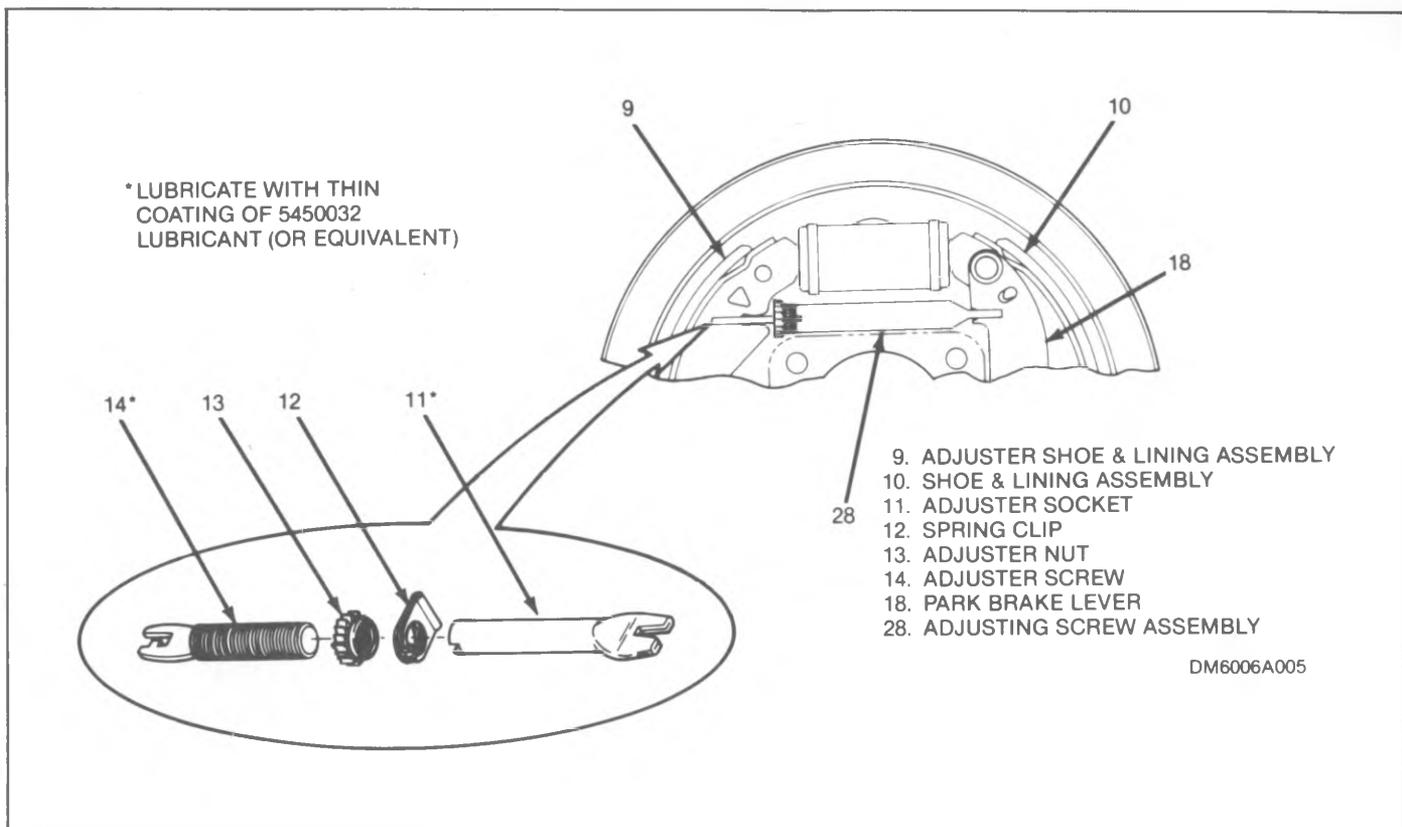
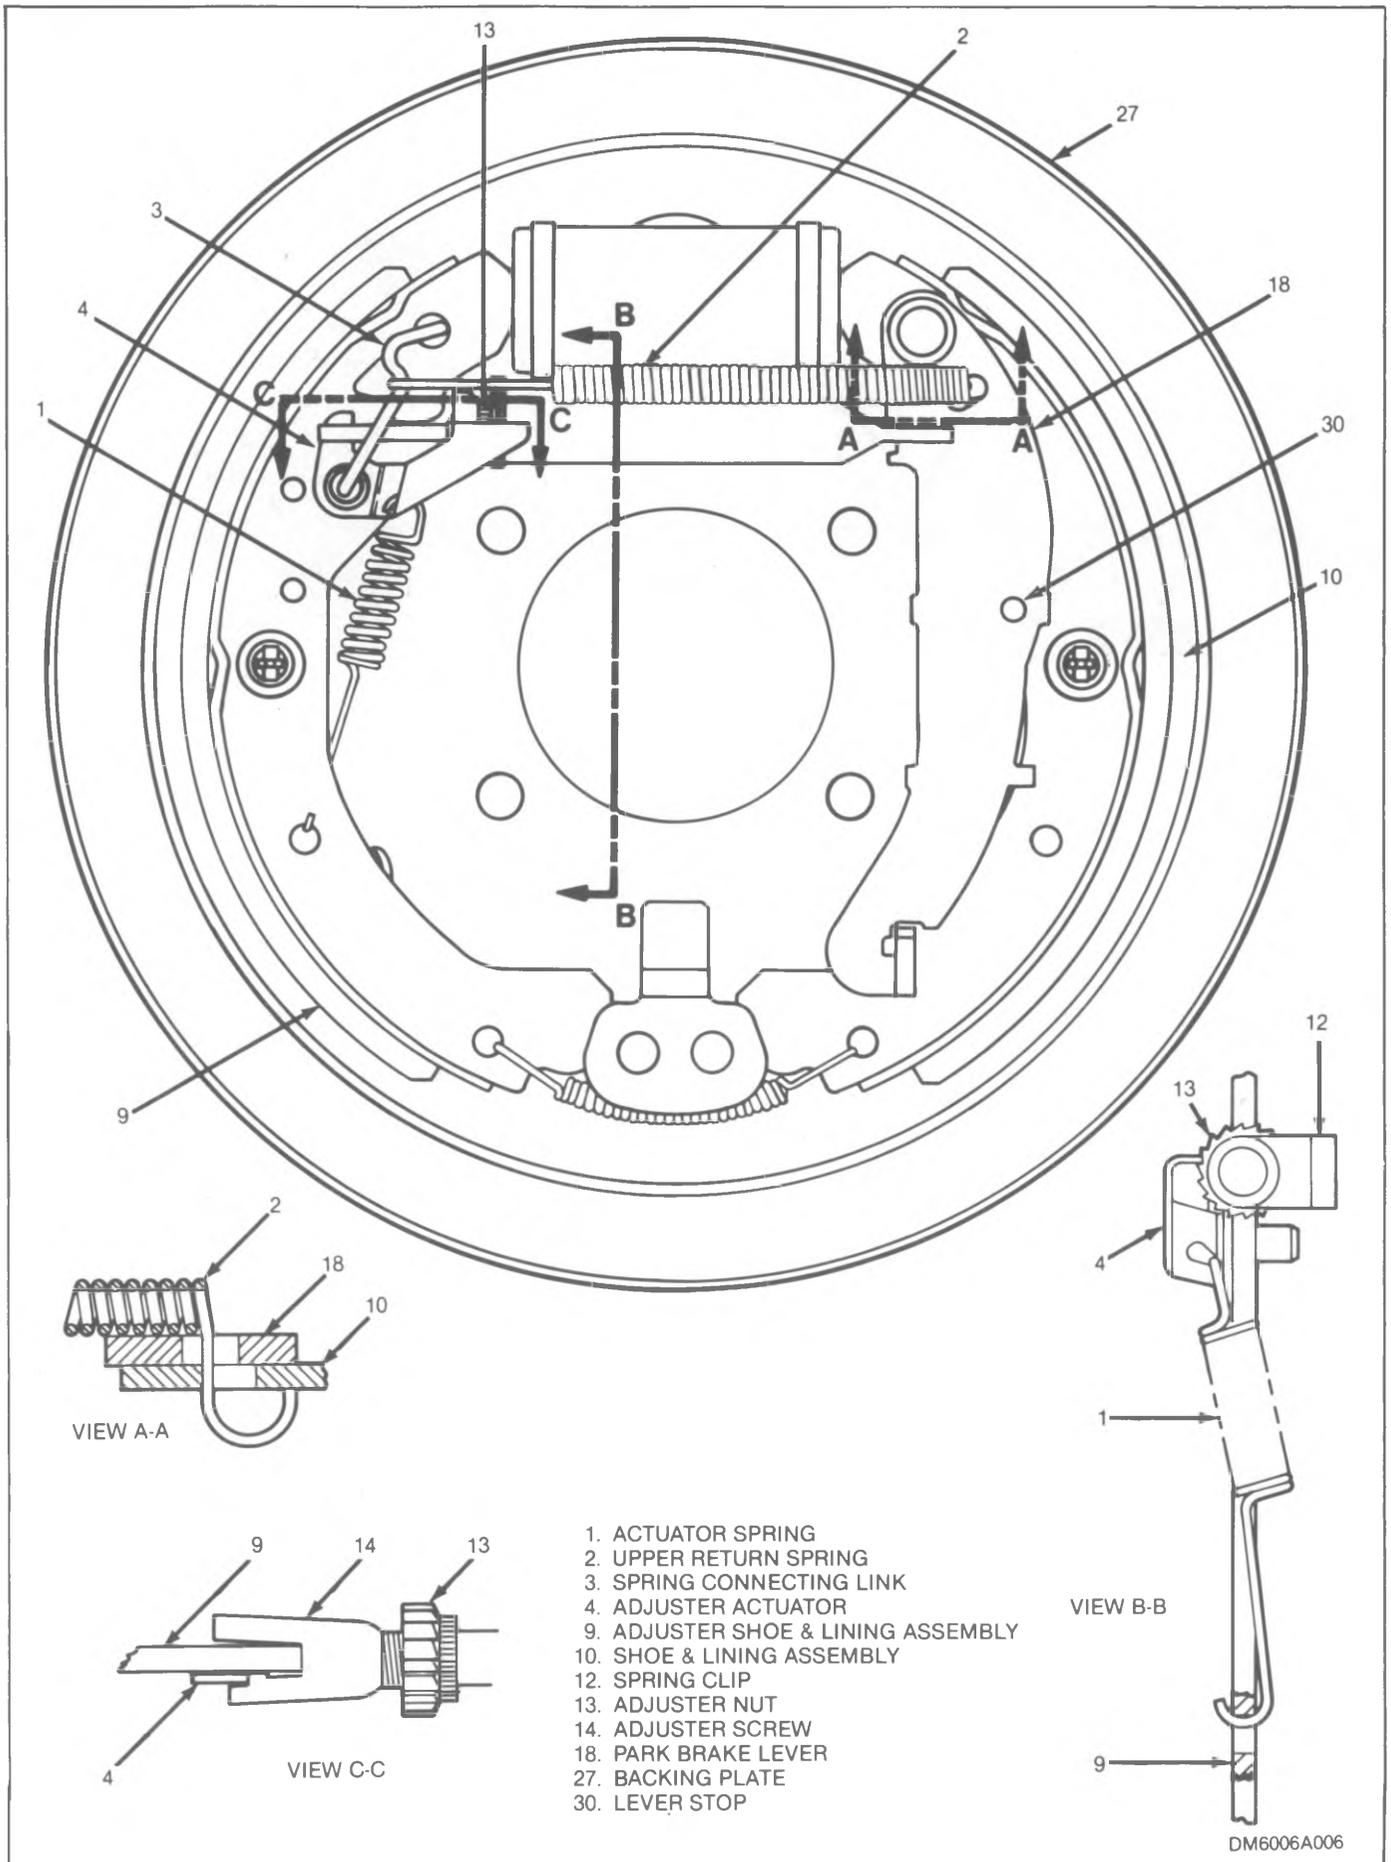

Figure 4-38. Adjusting Screw Assembly
Figure 4-39. Brake Assembly Details
14. Disassemble adjusting screw assembly (see figure 4-38) and clean parts in denatured alcohol. Check threads of adjuster screw (14) and nut (13) for smooth rotation over entire length. Apply brake lube
to adjuster screw threads, and ID of adjuster socket (11). Reassemble with spring clip (12) in position shown in figure 4-38.
16. If shoe and lining assemblies were replaced, press adjuster pin (33) into shoe and lining (9) so that pin projects 7.0-7.2 mm (0.275-0.283 in.) from side of shoe web where adjuster actuator (4) is installed.
17. Install parking brake lever (18) on shoe and lining (10) with spring washer (17), pin (16) and retaining ring (15). Make sure concave side of spring washer is against parking brake lever.
18. Install lower return spring (6) between shoe and linings (9 and 10).
**CAUTION:** Do not over-stretch lower return spring (6) in following step. Spring will be damaged if extended length exceeds 98.6 mm (3.88 in).
19. Install adjuster shoe and lining (9) and shoe and lining (10) (after connecting parking brake cable) with hold down pins (8) and springs (7). Lower return spring (6) should be positioned under the anchor plate.
a. Adjuster shoe and lining (9) is the one in which pin (33) was installed.
b. Adjuster shoe and lining (9) is to front of car on LH brake assembly or to rear of car on RH brake assembly.
20. Install adjusting screw assembly (28) between adjuster shoe and lining (9) and shoe and lining (10). Position as follows (see figure 4-39).
a. Adjusting screw assembly (28) with adjuster screw (14) engaging notch in adjuster shoe and lining (9), and spring clip (12) pointing towards the backing plate (see figure 4-38).
21. Install spring washer (5) over pin (33) with concave side against web of adjuster shoe and lining (9).
22. Install adjuster actuator (4) so that its top leg engages notch in adjuster screw (14) as shown in figure 4-39, view C-C.
23. Install spring connecting link (3) and hold in place.
24. Install upper return spring (2) as follows:
a. Insert angled hook end of spring (2) through parking brake lever (18) and shoe and lining (10) as shown in figure 4-39, view A-A.
b. Grasp long straight section of spring (2) with pliers. Pull spring straight across and then down to hook into crook in connecting link (3).
*CAUTION: Do not over-stretch actuator spring (1) in following step. Spring will be damaged if extended length exceeds 83.0 mm (3.27 in.).*
25. Install actuator spring (1) with brake spring pliers as shown in figure 4-39, view B-B.